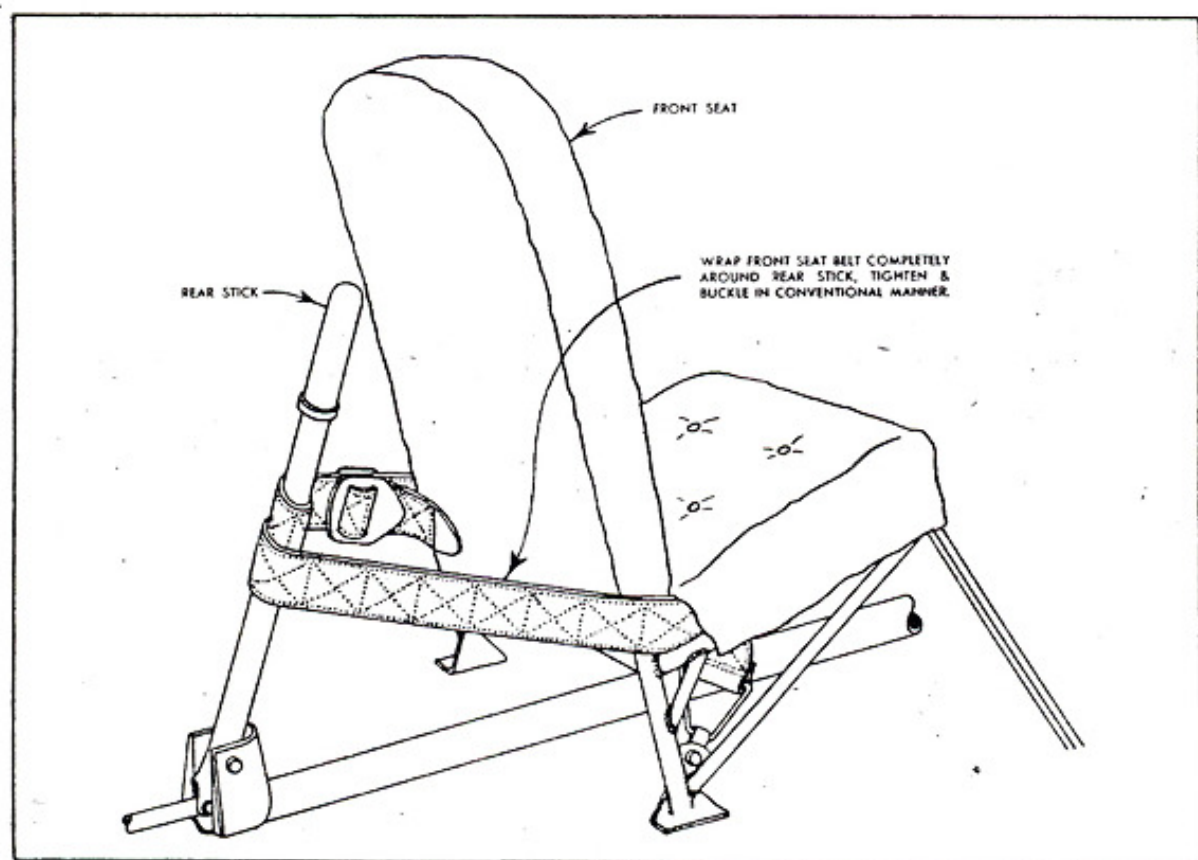

Figure 16—Aileron and Elevator Lock
(11) Wrap front seat belt completely around rear stick, tighten, and buckle in conventional manner. This will lock the ailerons and elevators and prevent wind damage to these surfaces. (See figure 16.)
(12) See that all switches, valves, and throttles are in "OFF" position.
(13) Close the enclosure door by reaching through sliding window opening.
(14) Adjust sliding window stop screw so that it puts slight tension on sliding window. Slide window up, leaving narrow opening at top to make reopening easier.
(15) Put canvas cover on propeller.
(16) Tie canvas covers over windshield and cellulose acetate canopy.